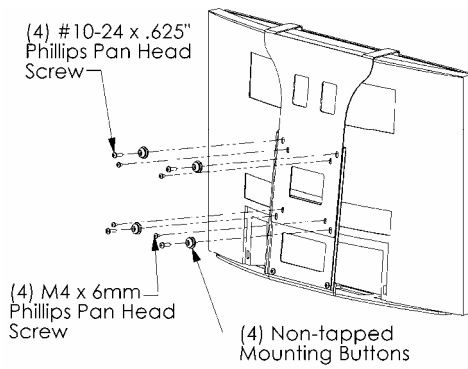

Figure 4
1. Assemble (4) mounting buttons to 5" (outer holes) pattern on the adapter brackets using (4) 10-24 x .625" Phillips pan head screws as shown in Figure 4.
2. Secure brackets together with (4) M4 X 6mm Phillips Pan Head Screws. See Figure 4.